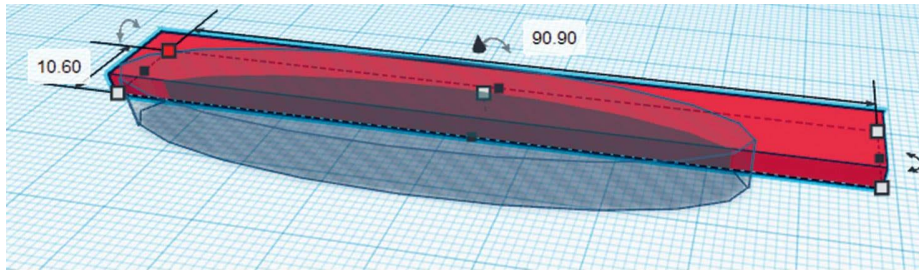

FIG. 3: The comb's handle and the cutout for the grip.
3. Create the handle using another stretched box that's the same thickness as the comb head and attach it to the head. The length of the handle is determined by the width of your palm, typically about 90 mm. Fig. 3 shows the handle and the cutout for the grip.